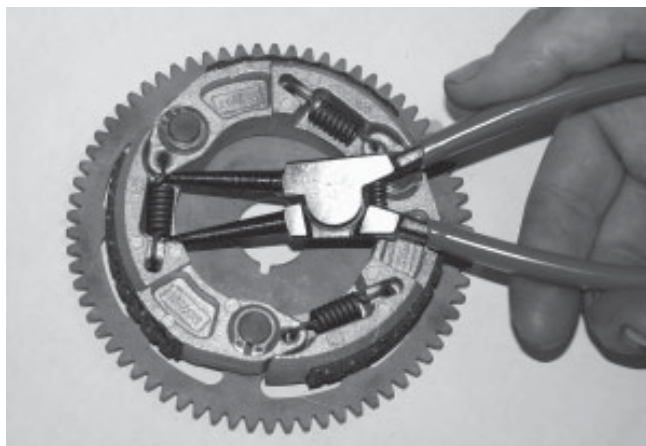

Fig. 56
- ⇒ Suspend the springs in the centrifugal weights using the appropriate pliers, see Fig. 56.